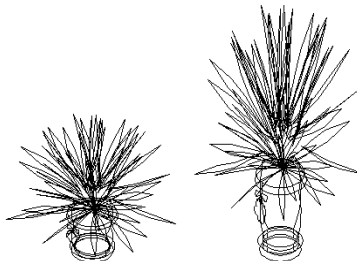

Fig. 168 – an example object in 1:1 and scaled
- an example of the object scaled in one axis only (Z) is presented on the illustration below (Fig. 168).